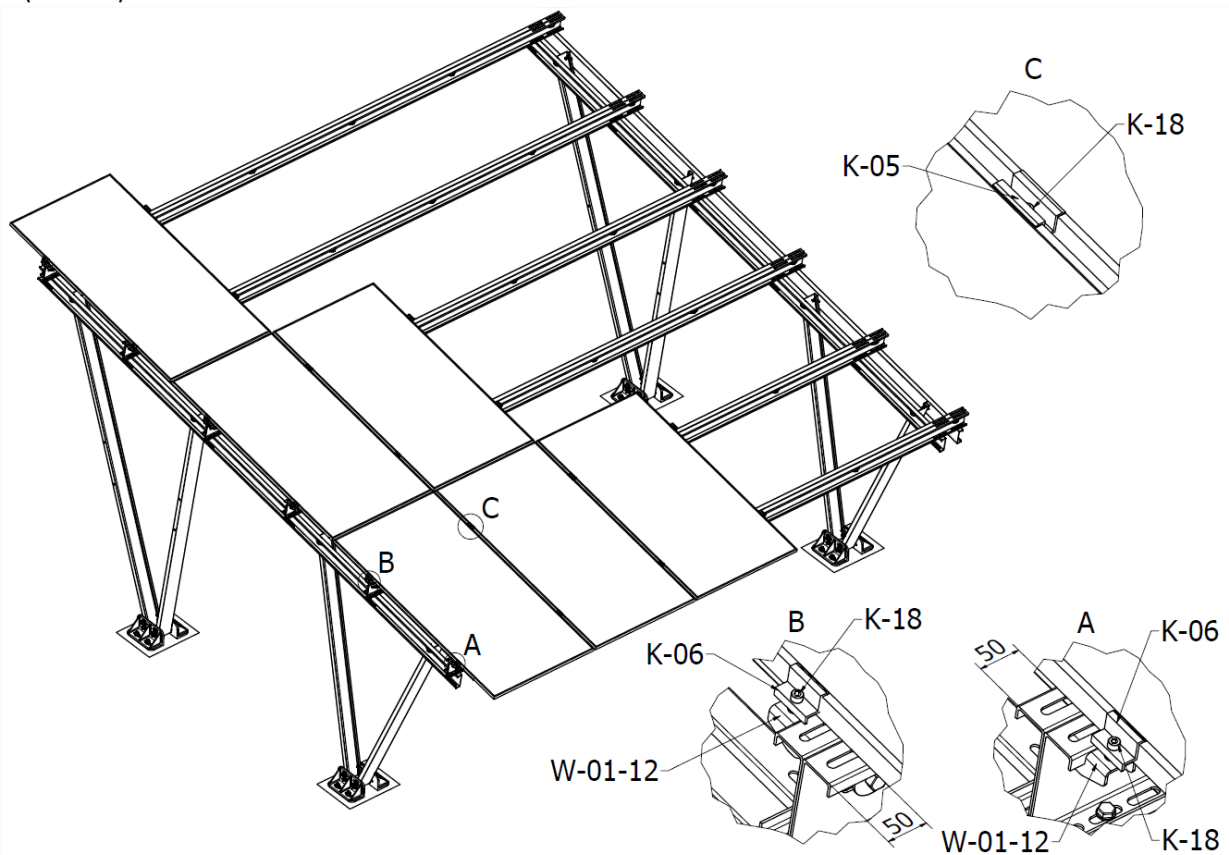

FIG.12 Assembling photovoltaic modules
12. In the next step, proceed to assemble the photovoltaic modules using the brackets (W-01-12), the middle clamps (K-05), the end clamps (K-06) and the Allen screws (K-18-35) — reference (FIG.12).
**NOTE:** As shown in (FIG.12), the bracket can be mounted on either the bottom or the top channel bar, depending on the assembly zone requirements of the module.